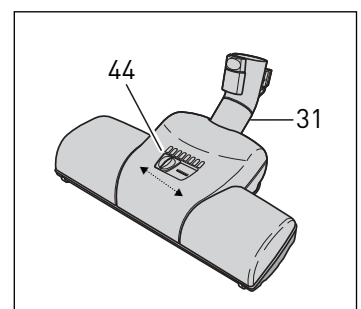

Figure 15
Turbo head - Figure 15
The Turbo head (31) has an air-driven rotating brush for gentle brushing of carpets. The Turbo head can be adjusted for high and low pile carpet. To adjust the head for high pile carpet, push the slider button (44) to the right. For low pile carpet, push the slider button (44) to the left. **The slider in Figure 15 is set in the low pile position.** The rotating brush should be cleaned regularly. Remove the Turbo head from the telescopic tube to clean. Remove fibers and hair from the brush manually.